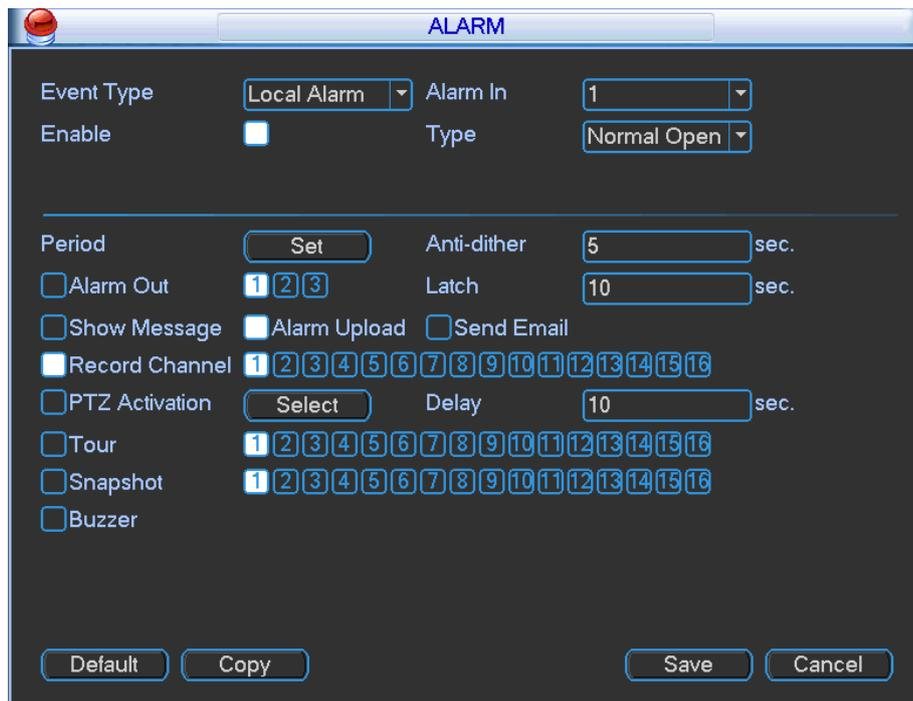
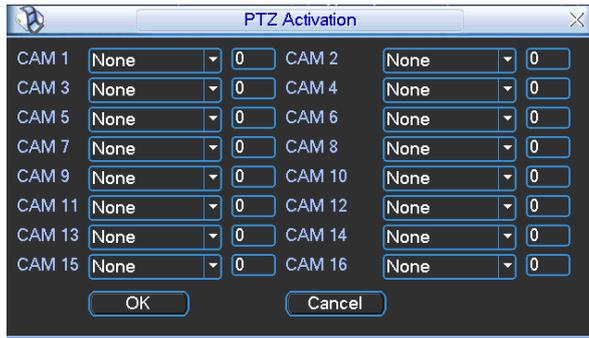

Figure 5-58
Figure 5-59
In the main menu, from Setting to Alarm, you can see alarm setup interface. See Figure 5-58.
- ✧ In Figure 5-58, click “select” button, you can see an interface is shown as in Figure 5-59. Here you can set the activation operation such as preset tour, pattern and enable.